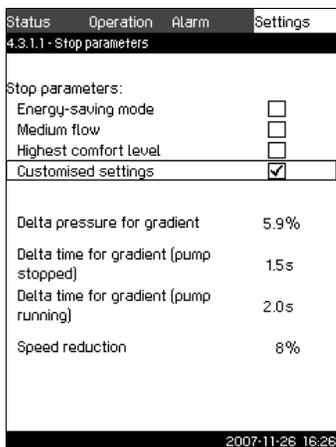

Fig. 65 Customized settings
8. Select one of the stop parameters with  $\checkmark$  or  $\wedge$ , and save with  $\text{ok}$ . If **Customised settings** are selected, the parameters shown in fig. 65 must be set. See examples below.